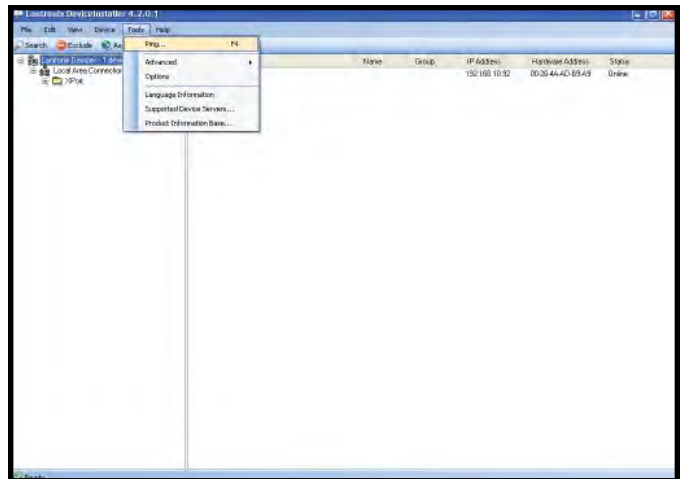

Figure 91. Selecting the Ping command
X. Verify proper communication to the Network Adapter by clicking “Tools” then “Ping” located at the top of the window (see Figure 91).